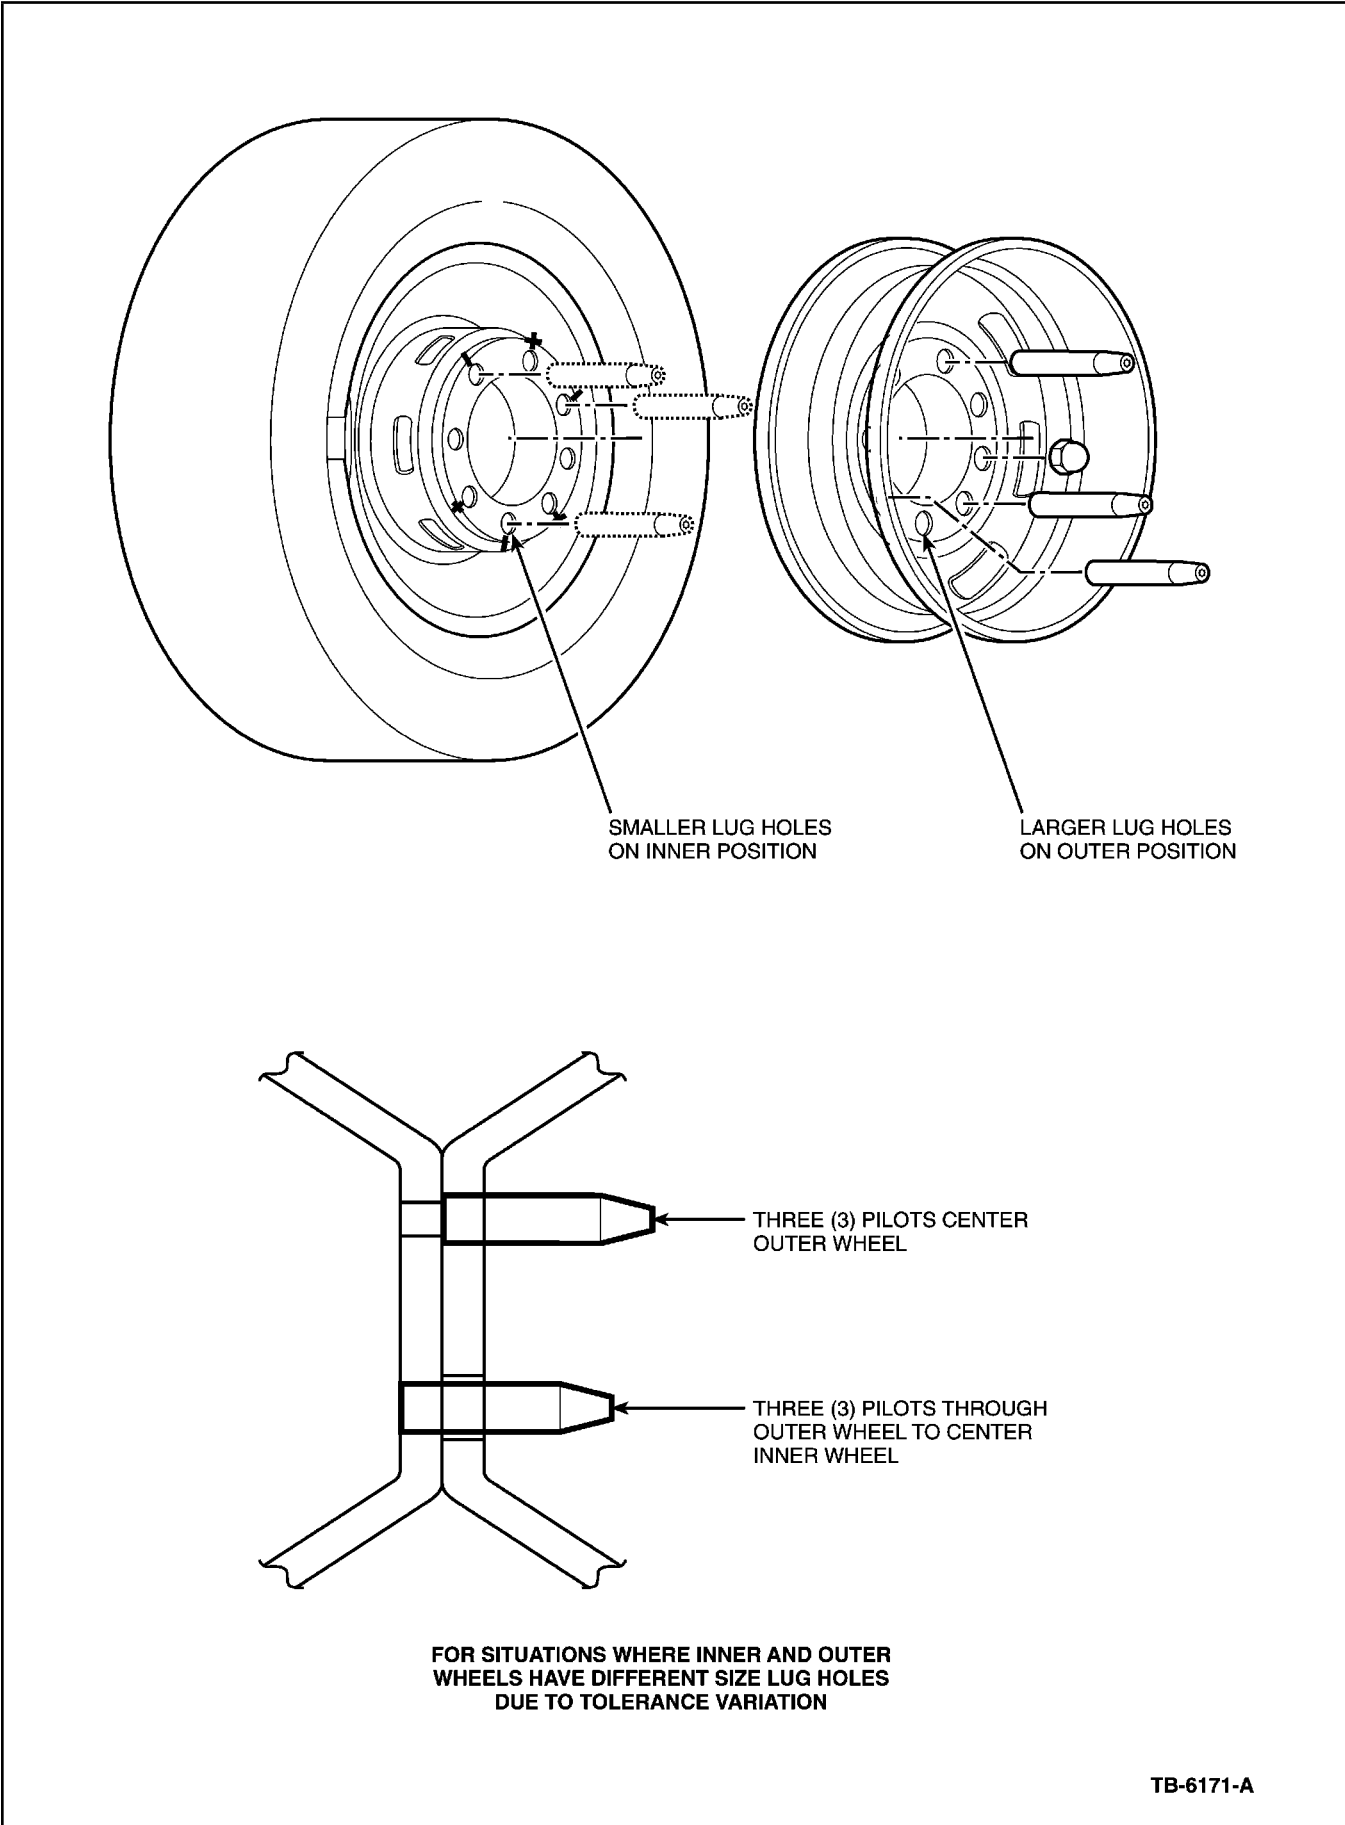

Figure 4 - Article 00-21-9
1. Choose four (4) centering pilots that best fit the wheel lug holes prior to installing the wheel/tire assembly on the hub. Mark the lug holes that will be used for centering. On the rear axle, the same size centering pilots may not be appropriate for both the inner and outer dual wheels. If this is the case, identify three (3) pilots for the wheel with the smallest lug holes (to be mounted on the inner position) and three (3) pilots for the wheel with the largest lug holes (to be mounted on the outer position). This will allow centering both dual wheels in the steps that follow (Figure 4).
2. Install the inner and outer duals on the hub and install two (2) lug nuts finger tight.
3. Thread the centering pilots onto the lugs and through the wheel holes previously marked. On the rear duals, install the three (3) centering pilots for the outer wheel first and then the centering pilots for the inner wheel. Rotate the wheel as you thread in the pilots to make the installation easier (Figure 4).